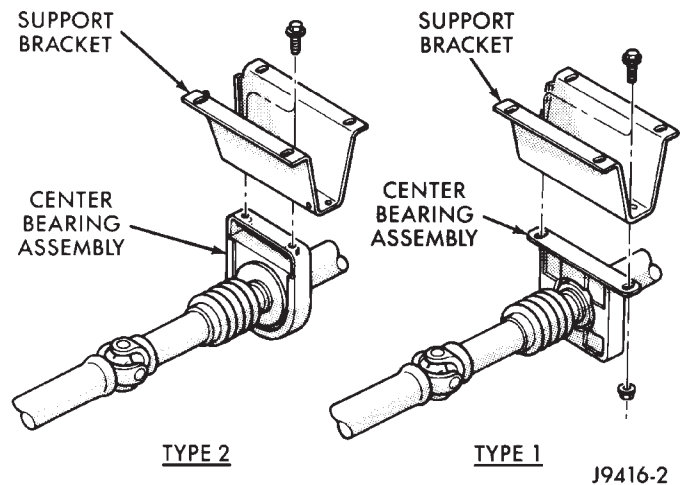
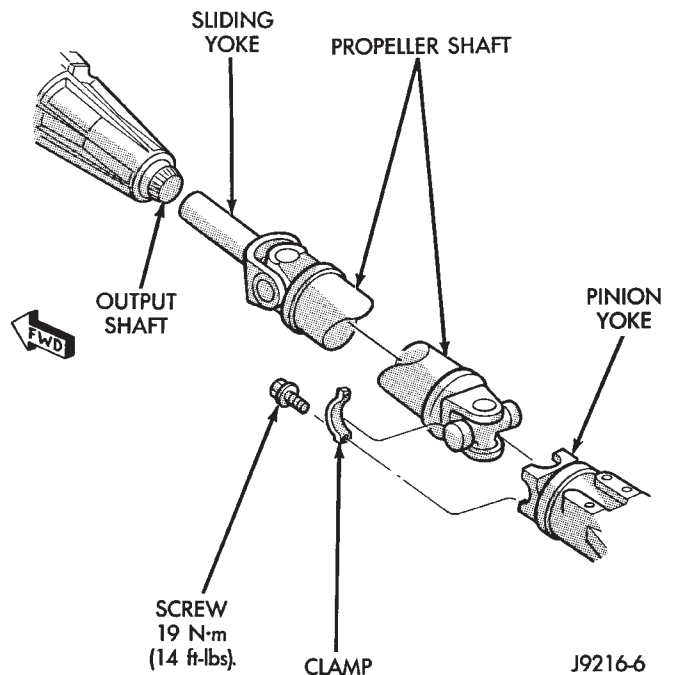

Fig. 13 Center Bearing
Fig. 14 Rear Propeller Shaft
(1) Raise and support vehicle on safety stands.
(2) Shift the transmission to the Neutral position.
(3) Using a suitable marker, mark a line across the axle pinion yoke and the propeller shaft yoke for installation reference.
(4) Using a suitable marker, mark the outline of the center bearing on the frame crossmember for installation reference, if equipped.
(5) Remove bolts that attach the center bearing to the support bracket (Fig. 13), if equipped.
(6) Remove the bolts holding the universal joint clamps to the pinion yoke.
(7) Slide the slip yoke off of the transmission, or transfer case, output shaft and remove the propeller shaft (Fig. 14).